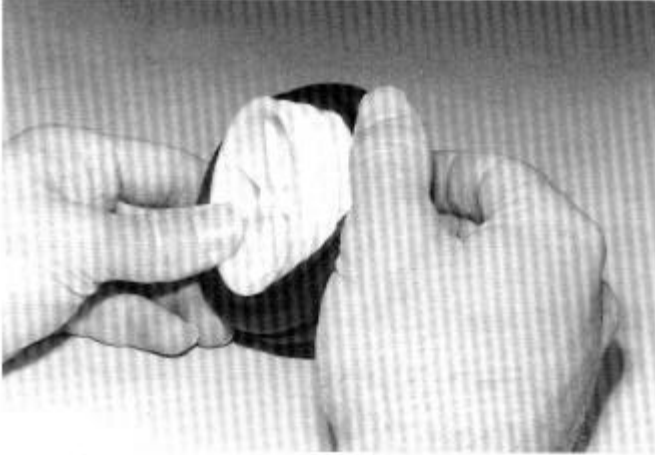

FIG. 151
□ **FIGS. 151, 152 & 153**—Take the front tires and work them onto the wheels with your hands. They will go on a little tight, but they do go on.